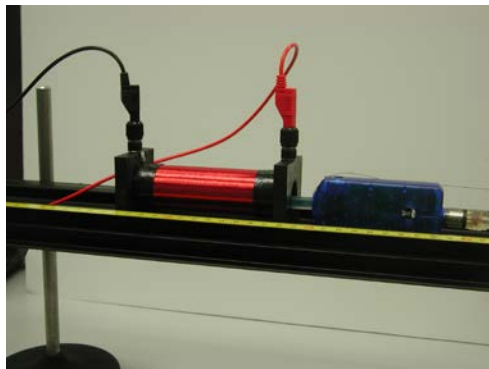

Figure 8: Solenoid Setup
1. Setup as shown in Figure 8 by setting the solenoid on the optics track. Note that the magnetic sensor probe goes just past halfway thru the coil when fully inserted. The 2-axis Magnetic Field sensor is still connected to the Rotary Motion Sensor.